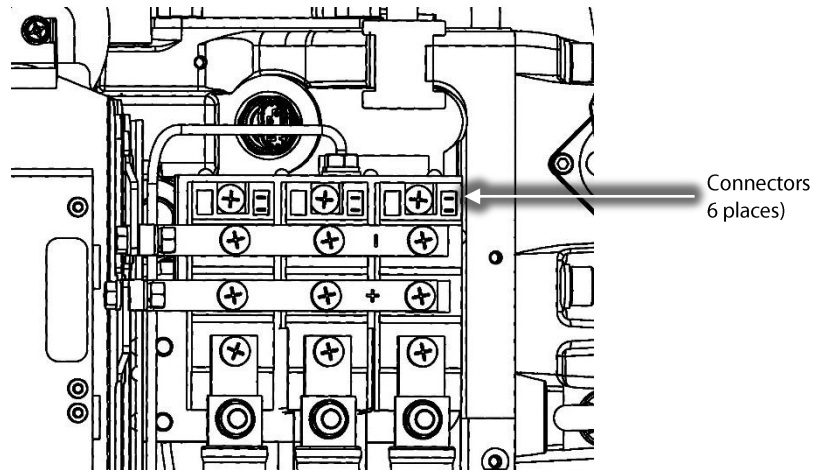

Figure 6 – Soft Start SCR Gate Cable Harness Removal
15. Unplug the Soft Start SCR Gate cable harness from the SCRs noting its orientation. Refer to Figure 6 (Soft Start SCR Gate Cable Harness Removal) for the location of the connectors on the SCRs.